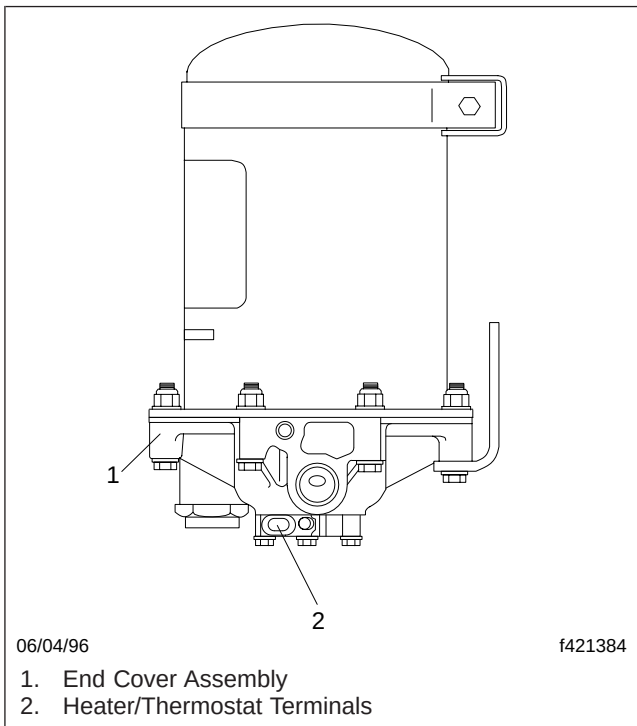

Fig. 3, End Cover Terminals Location
7. Use an ohmmeter to check resistance between the terminals on the end cover. See **Fig. 3**. The end cover contains the heater/thermostat. If the heater/thermostat is between 40° and 90°F (5° to 32°C), the heater/thermostat measured resistance will be infinite ohms. If the measured resistance is less than infinity, replace the heater/thermostat.